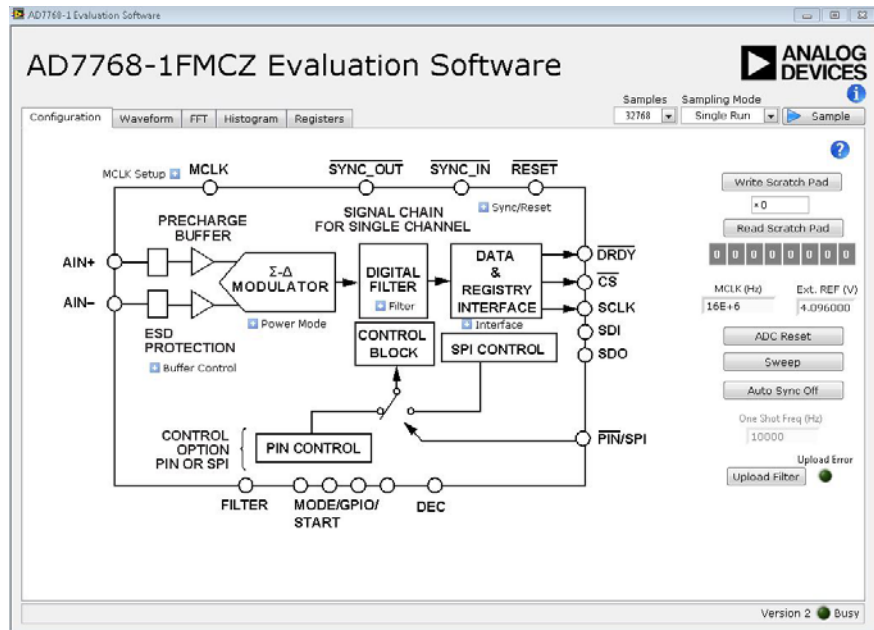

Figure 17. Configuration Tab
The **Configuration** tab is the tab displayed by default when the software first opens (see Figure 17). An overview of the AD7768-1 block diagram is shown, along with buttons that open pop up menus for quick configuration of the device.
5. Set the MCLK frequency on the **Configuration** tab (see Figure 17). The output data rate (ODR) is set using a combination of the AD7768-1 MCLK and decimation rate. In  $\overline{\text{PIN}}$  control mode, the registers are not used to configure the part. The register map settings of the EV-AD7768-1FMCZ software are no longer automatically updated to reflect the settings of the device.